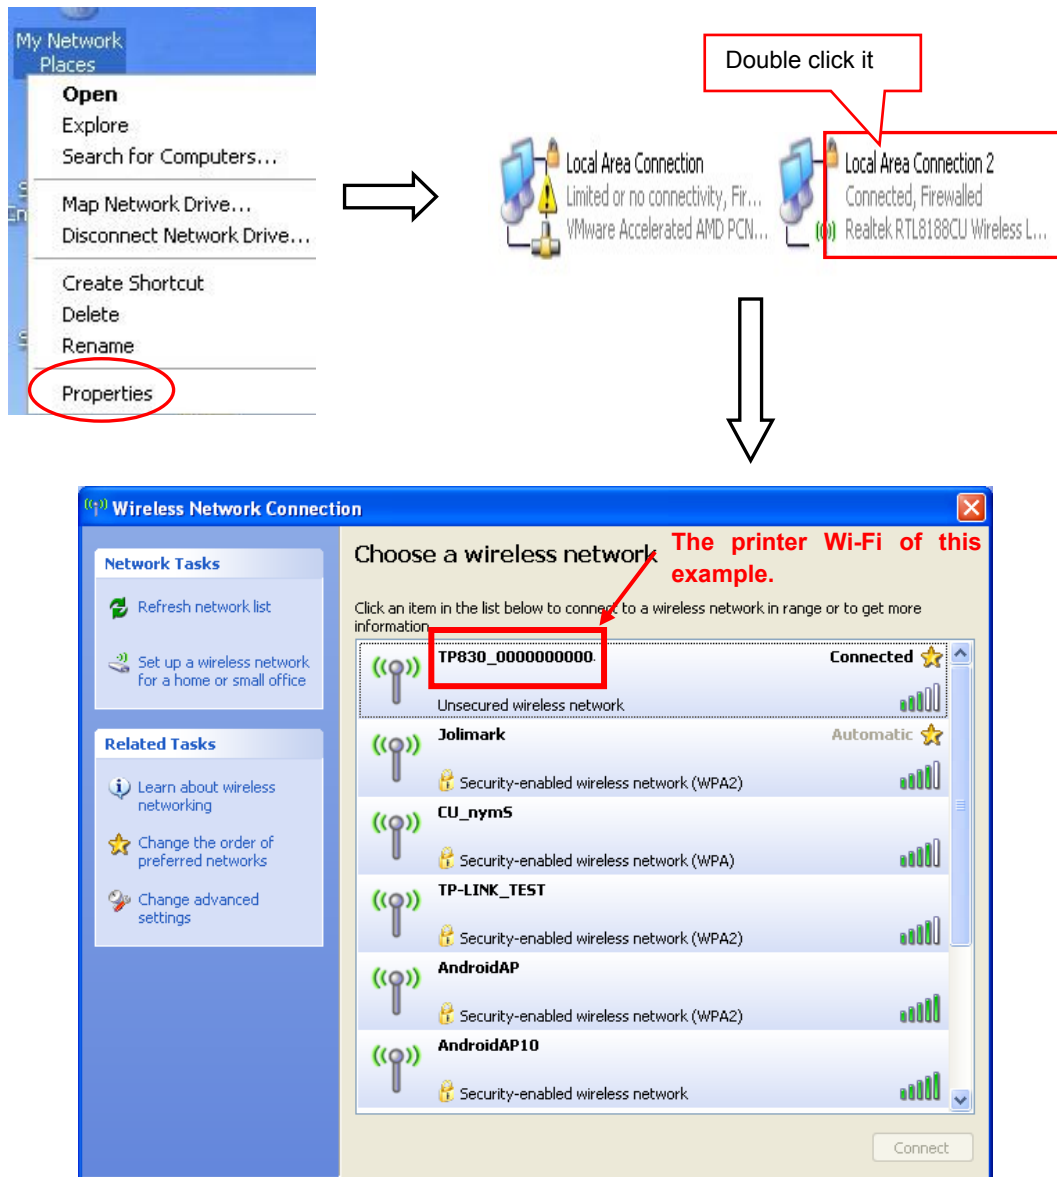

Figure 1
2. Right click "My Network Places", and then click "Properties" to find the "Local Area Connection 2". Double click it and the window of "Wireless Network Connection" pops up, select and double click the corresponding printer Wi-Fi name. The printer Wi-Fi default name is composed by "t the printer model+10 SN numbers" (as shown in Figure 1)